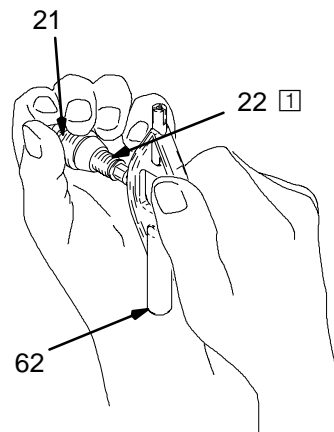

Fig. 17
4. Unscrew the resistor stud (22) from the fluid nozzle (21) with the multi-tool (62). See Fig. 17.
3. Install the resistor stud (22) in the fluid nozzle (21) with the multi-tool (62). Tighten the resistor stud to 10 in-lb (1.13 N•m). See Fig. 17.